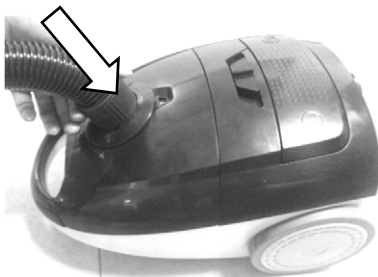

Fig 1
1. **Connect the hose accessories:** insert the hose end into the hose socket at the front cover and then hook it. (Fig 1)